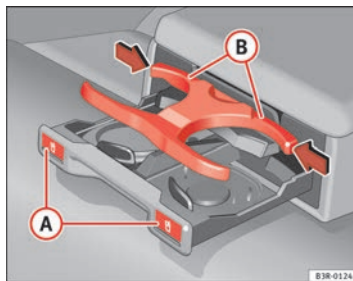

Fig. 132 Drink holder in the rear armrest
- Press the symbol  (A) ⇒ fig. 132.